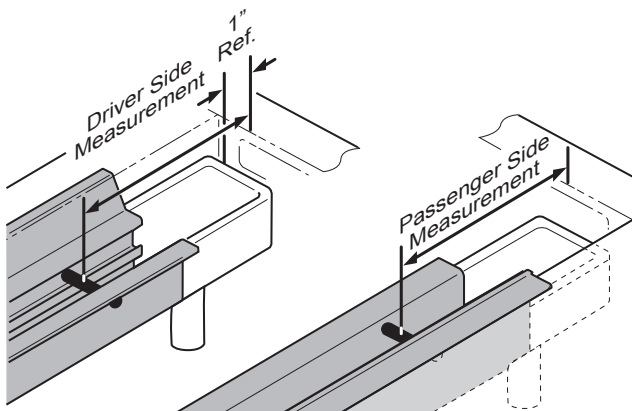

Figure 5
- b) Position tonneau side rails on truck bed 1" (25.4mm) back from the cab rail sheetmetal edge. (Fig. 5)